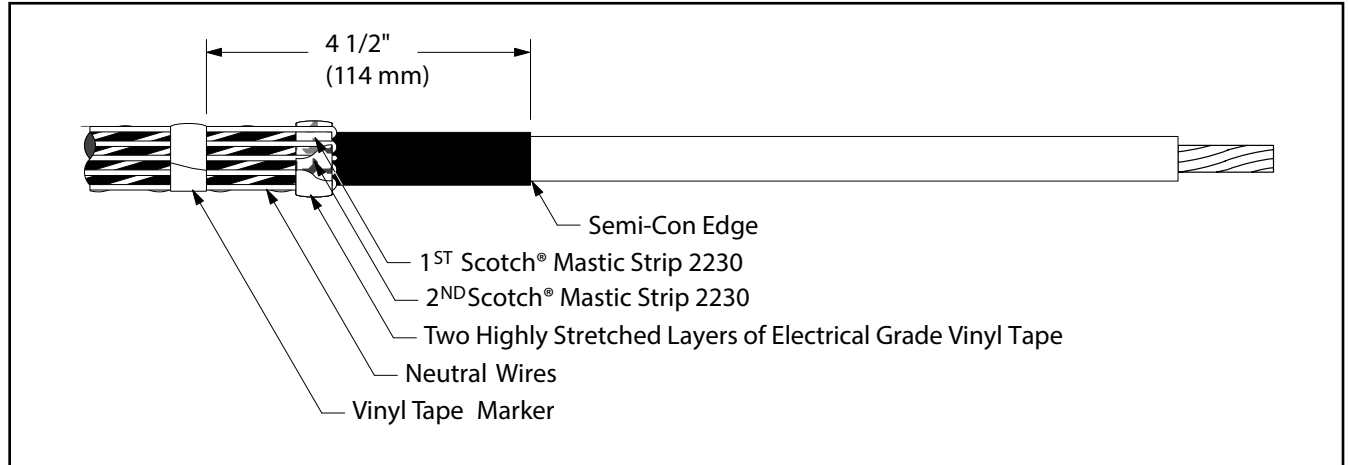

Figure 8
- 6.6 Bend neutral wires back over applied sealing mastic and secure to cable $4\frac{1}{2}$ " (114 mm), below cable semi-con edge using vinyl tape (Figure 8).
- 6.7 Select second Scotch® Mastic Strip 2230 from kit and remove white release liners. Apply a second **SINGLE WRAP** of mastic over the neutral wires and previously applied mastic (Figure 8). Cut off excess.
- 6.8 Compress neutral wires into mastic by over-wrapping seal strips with two highly stretched layers of electrical grade vinyl tape (Figure 8). **Be sure to cover all exposed mastic.**